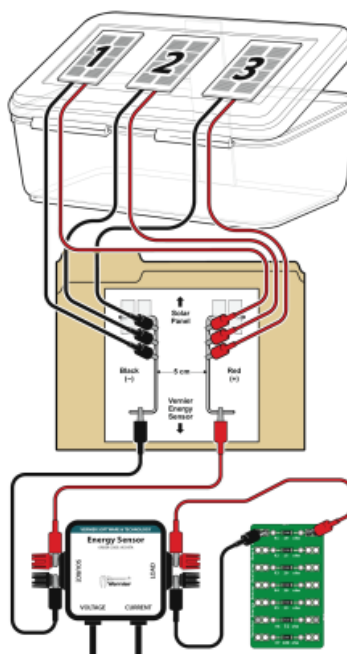

Figure 9
19. Set up a circuit with three Solar Panels connected in parallel (see Figure 9).